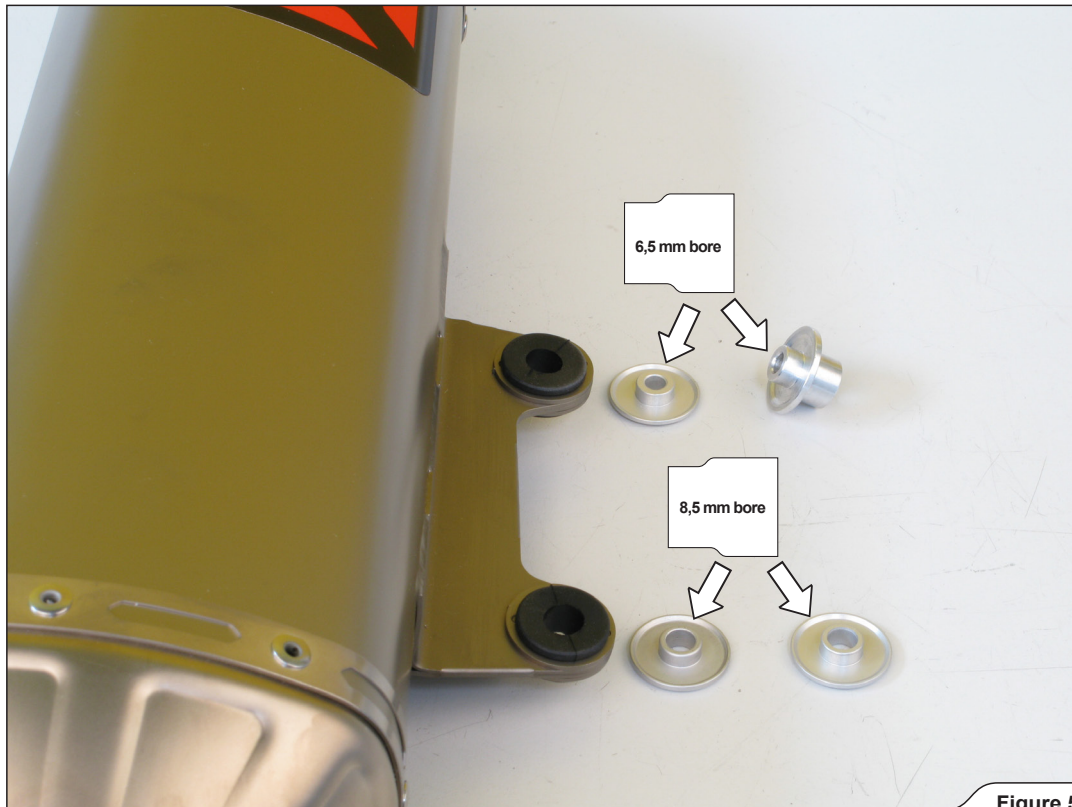

Figure 5
2. Assemble the aluminium bushes from Akrapovič installation kit into the rubber muffler's bracket, as shown (Figure 5, 6).